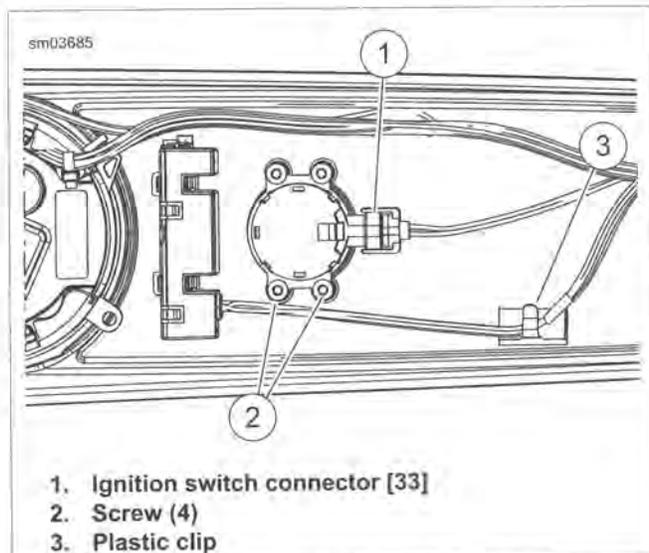

Figure 7-49. Instrument Console (Road King)
4. See Figure 7-49. Disconnect ignition switch connector [33]. Release ignition switch conduit from plastic clip, if necessary.
1. See Figure 7-49. Install ignition switch. Tighten to 25-35 in-lbs (2.8-3.9 Nm) in a crosswise pattern.